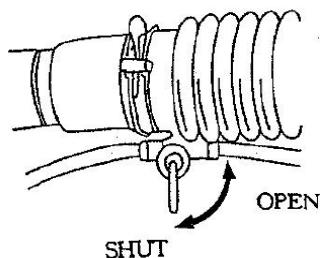

Fig. 8
- During spraying operatin, while adding chemical, the switch must be shut, see Fig.8.During dusting operation, dusting valve throttle and fuel lever should be on the bottom position, other-wise, the machine will have chemical out.